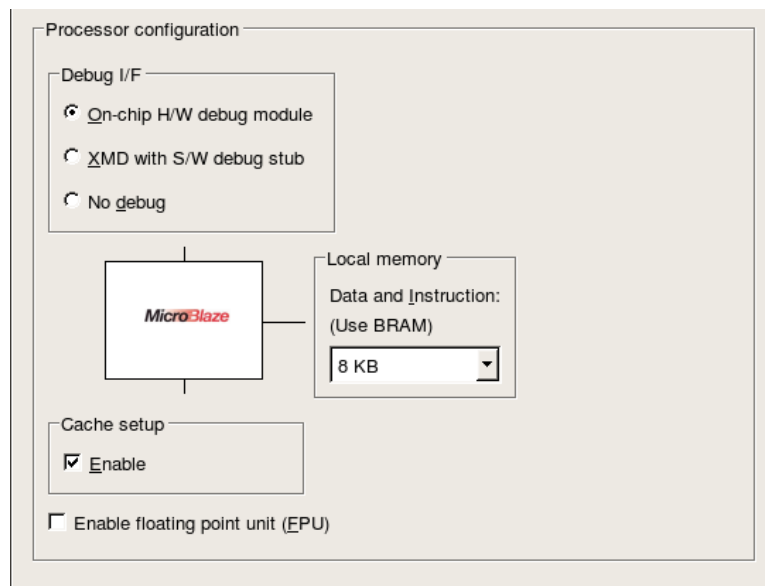

Figure 2: Enable cache
- (c) In the same window, select 'Enable' under 'Cache setup'. See Figure 2. This will add cache to our MicroBlaze system.